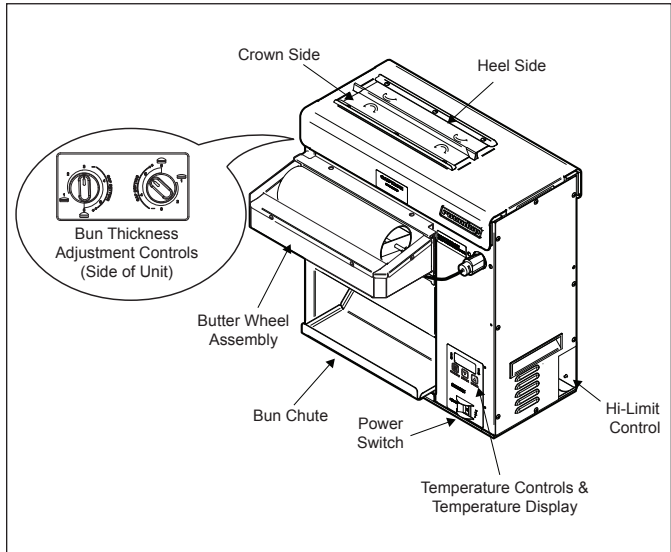

Figure 3. VCT-2010 Toaster
NOTE: The temperature display (Figure 3) flashes “LO” until the toaster reaches its preset operating temperature. When the toaster approaches the preset temperature of 550°F (288°C), “USE” appears in the temperature display and the unit is ready to toast buns. If “USE” does not appear in the window after approximately 30 minutes, contact your Authorized Service Agency.
3. Drop Crowns and Heels into the slot (Figure 3).
4. Toasted buns will drop out of the unit and down the Bun Chute (Figure 3) in approximately 18 seconds.